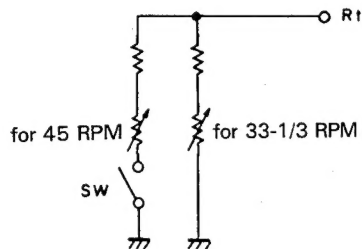

Fig. 10-8 Reference Frequency Switch
1. As the rotational speed is detected at a constant frequency, it is necessary to modulate the frequency into voltage (DC). This function is performed by the F-V modulator.
4. The reference frequency switching mechanism is illustrated in Fig. 10-8. When the switch is OFF, the speed is fixed at 33-1/3 RPM. When the switch is ON, the 33-1/3 RPM semi-fixed resistor and the 45 RPM semi-fixed resistor form a para-connection, and the combined impedance determines the rotational speed. Therefore, after adjusting the rotational speed with the switch set to 33-1/3 RPM, it is necessary to readjust the speed with the switch set to 45 RPM. The reason for this arrangement is to prevent an unstable rotational condition from resulting when the speed switch is midway between the 33-1/3 and 45 RPM positions and both are OFF.